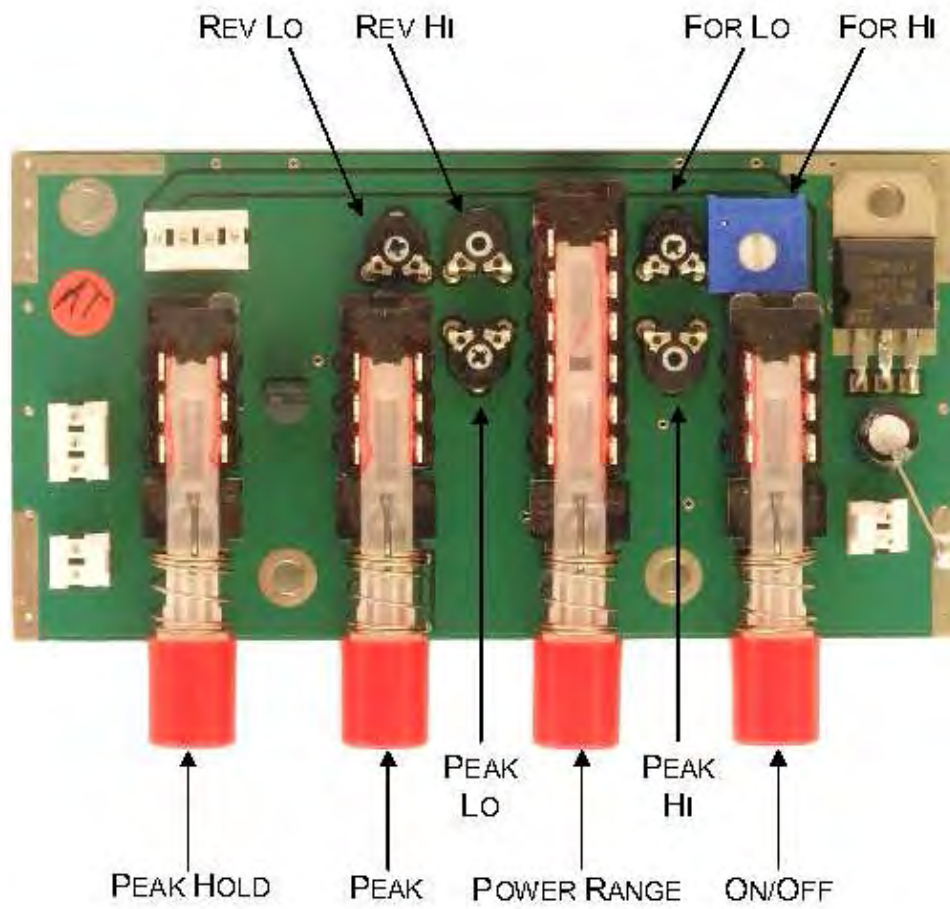

Figure 12.1: Meter Board Adjustment Locations
- (e) Adjust the **FOR LO** potentiometer (Figure 12.1, page 81) so that the AT-AUTO's forward power indication matches that shown on the calibrated Wattmeter.
- (c) Adjust the **PEAK LO** potentiometer (Figure 12.1) so that the AT-AUTO's forward power indication matches that shown on the calibrated Wattmeter.
- (c) Adjust the **PEAK HI** potentiometer (Figure 12.1) so that the AT-AUTO's forward power indication matches that shown on the calibrated Wattmeter.
- (c) Adjust the **FOR HI** potentiometer (Figure 12.1) so that the AT-AUTO's forward power indication matches that shown on the calibrated Wattmeter.
- (b) Adjust the **REV HI** potentiometer (Figure 12.1) so that the AT-AUTO's reflected power indication matches the forward power displayed on the calibrated Wattmeter.
- (c) Adjust the **REV LO** potentiometer (Figure 12.1) so that the AT-AUTO's reflected power indication matches the forward power displayed on the calibrated Wattmeter.